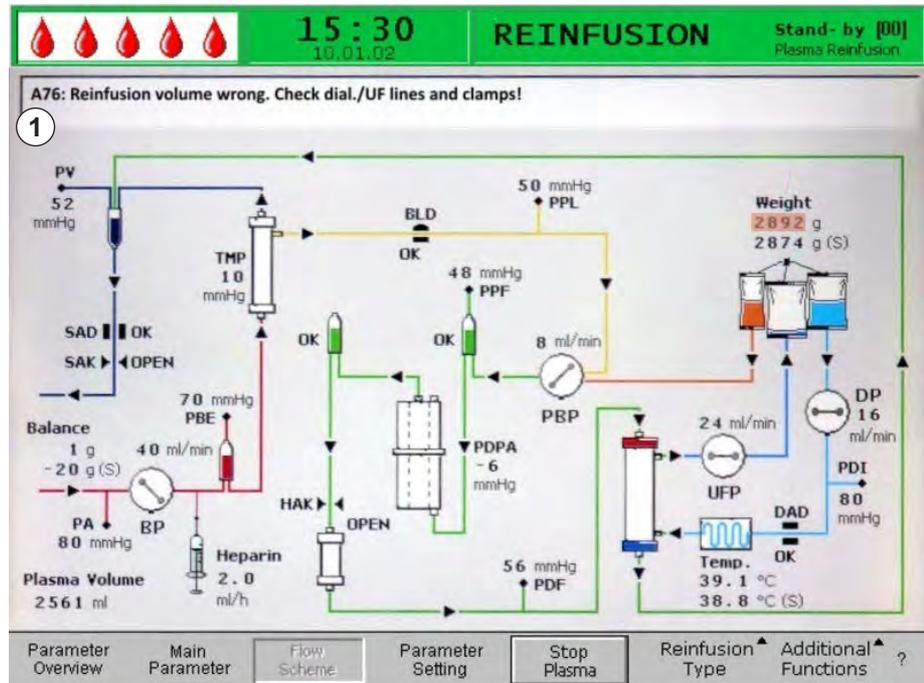

Fig. 10-1 Alarm indication in Alarm/Note line
An alarm situation always requires special attention and immediate processing by the user. Alarms are displayed in the Alarm/Note line (Fig. 10-1, ①) and accompanied by an acoustic alarm tone.